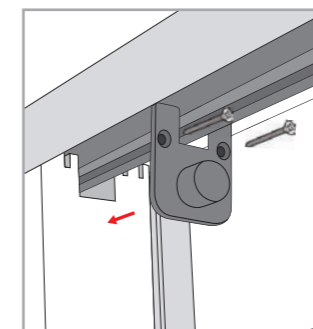

Figure 21: Top rail stop plate.
Step 7 - Line up the rear side stop plate (top) and screw the plate in place as shown in Figure 21.